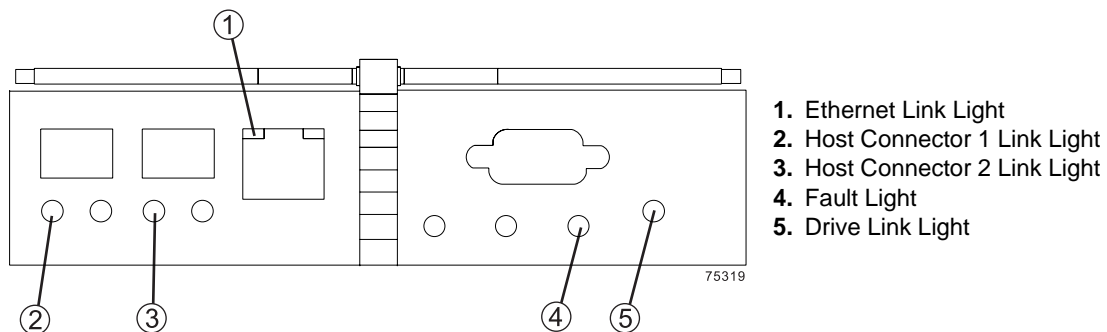

Figure 4-6 Controller Host Link, Drive Link, and Fault Lights
- 20 Based on the status of the Host Link, Drive Link, and Fault lights, select one of the following steps. Figure 4-6 shows the locations of these lights.